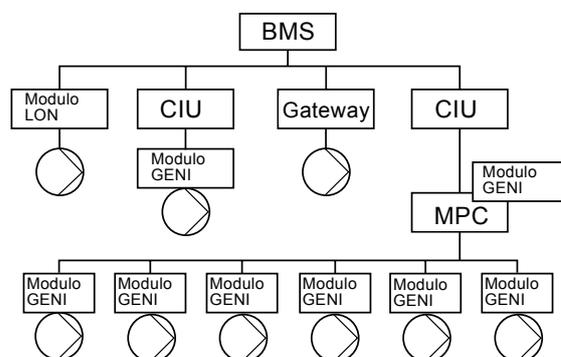

Fig. 17 MAGNA 32-120, 40-120, 50-60, 50-120, 65-60, 65-120 in sistemi BMS
- Grundfos MAGNA (D) 32-120, 40-120, 50-60, 50-120, 65-60, 65-120. Vedi fig. 17.